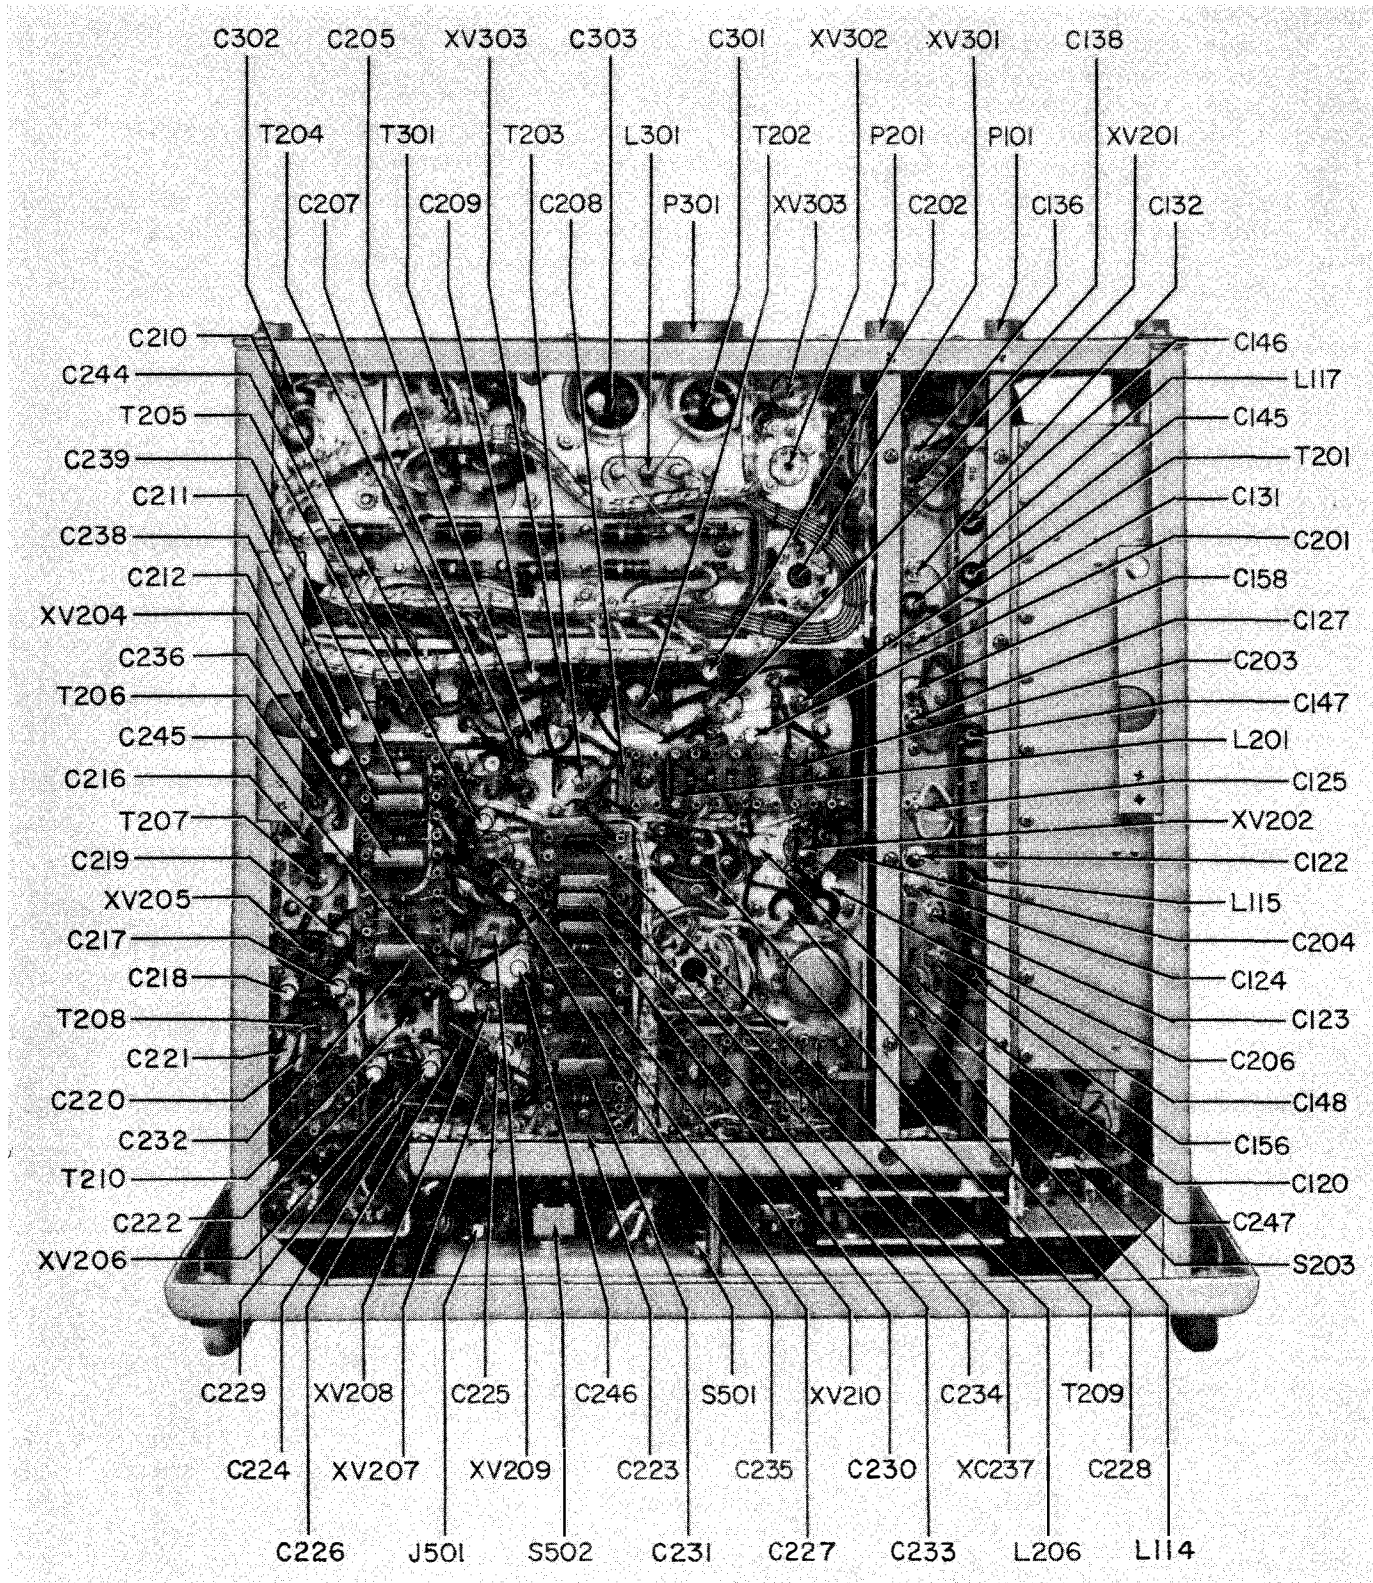

Figure 7-15. Radio Receiver R-482A/URR-35, Bottom View—Identification of All Components Except Resistors and Terminal Boards
(1) Set up, near the receiver, a heterodyne frequency meter such as a Navy Model LM or LR series, which will cover the range of 10–18 megacycles, or the range 20–35 megacycles, and couple it, through a d-c blocking capacitor, to capacitor C123, located on the oscillator side of the preselector; see figure 7-15.
(2) Set the tuning dial of the receiver to 232 megacycles, throw the CRYSTAL-MANUAL switch to MANUAL, and install any crystal.
- (1) Unsolder the wires from the three terminals of choke L301; see figure 7-15.
- (2) Remove the nuts from the four mounting studs on L301.
- (3) Lift out L301.
- (4) Unsolder the wires from two terminals of capacitor C304, atop the chassis.
- (5) Remove the nuts from the two mounting studs on C304, which are accessible through holes in the right side panel of the chassis.
(1) Unsolder the wiring from the terminals of T301; see figure 7-15. Identify each wire in some manner if there is any likelihood that the preformed arrangement of these wires will be disturbed before connections are restored.
(2) Remove the nuts from the four transformer-mounting studs.
(3) Unfasten the rear panel by removing: